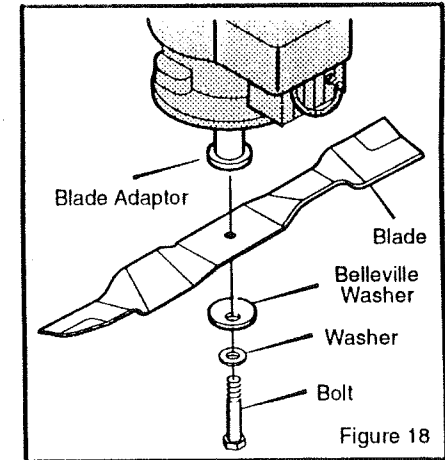

Figure 18
7. Fasten the blade with the original washers and bolt. Make sure the outside rim of the Belleville washer is against the blade (Figure 18).